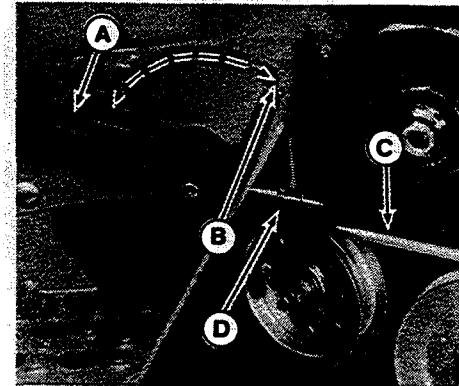

Figure 29. Parking Brake - Six Speed
1. To adjust the parking brake, loosen the jam nut (D, figure 29). Rotate the parking brake lever clockwise until it is tight and pulled up against fender. Operate the lever to see if it is too tight or too loose. It should be tight against fender when set but not too tight to operate. When proper adjustment is made, tighten the jam nut.